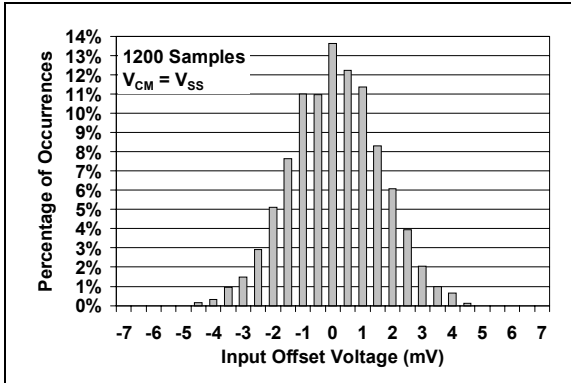

**FIGURE 1-3:** DC Test circuit for the open-drain output comparators.
**Electrical Specifications:** Unless otherwise indicated,  $V_{DD} = +1.6V$  to  $+5.5V$ ,  $V_{SS} = GND$ ,  $T_A = 25^{\circ}C$ ,  $V_{IN+} = V_{DD}/2$ ,  $V_{IN-} = V_{SS}$ ,  $R_{PU} = 2.74$  k $\Omega$  to  $V_{PU} = V_{DD}$ . Refer to Figure 1-3.
**Electrical Specifications:** Unless otherwise indicated,  $V_{DD} = +1.6V$  to  $+5.5V$ ,  $V_{SS} = GND$ ,  $T_A = 25^\circ C$ ,  $V_{IN+} = V_{DD}/2$ , Step = 200 mV, Overdrive = 100 mV,  $R_{PU} = 2.74 k\Omega$  to  $V_{PU} = V_{DD}$ , and  $C_L = 36 pF$ . Refer to Figure 1-2 and Figure 1-3.
**Electrical Specifications:** Unless otherwise indicated,  $V_{DD} = +1.6V$  to  $+5.5V$ ,  $V_{SS} = GND$ ,  $T_A = 25^\circ C$ ,  $V_{IN+} = V_{DD}/2$ ,  $V_{IN-} = V_{SS}$ ,  $R_{PU} = 2.74 k\Omega$  to  $V_{PU} = V_{DD}$ , and  $C_L = 36 pF$ . Refer to Figure 1-3.